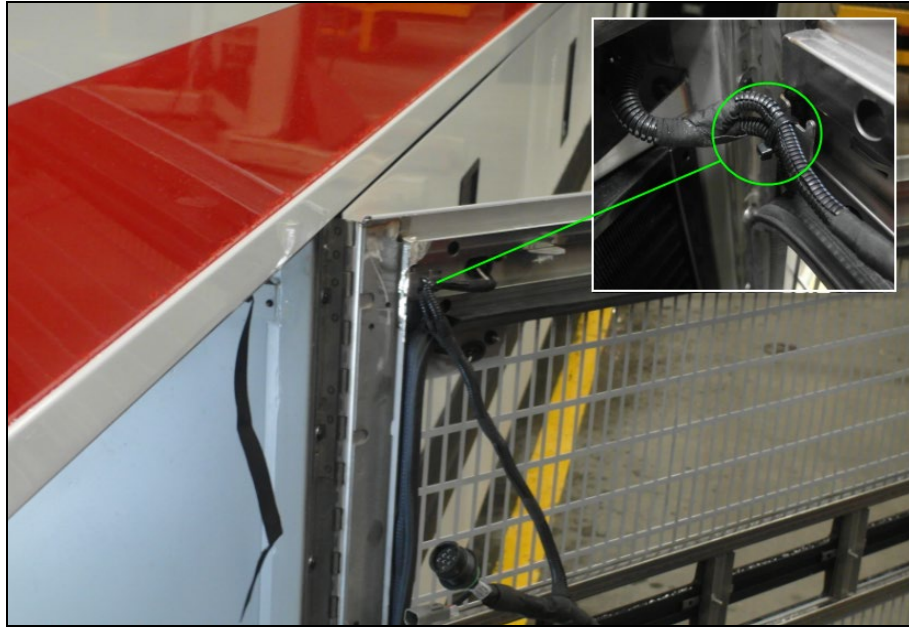

Fig.14
9. Cut the cable tie securing the harness to the upper door corner (Fig.14).